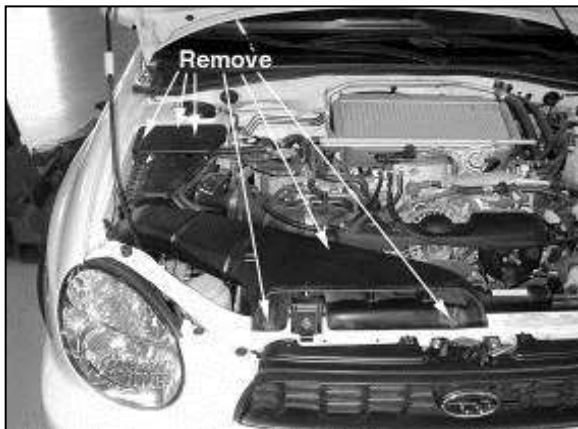

Fig. 1
- b. Remove the two mounting bolts holding the air inlet scoop and remove the scoop from the vehicle. **(Fig. 1)**